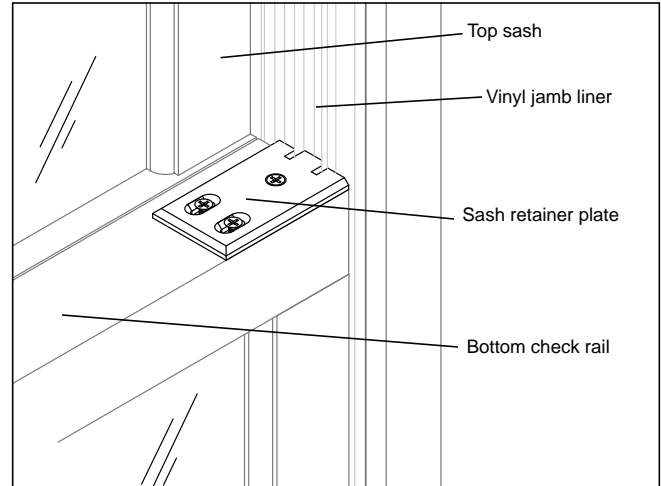

Figure 12
- With bottom sash installed, slide both sash retainer plates tight against the vinyl jamb liner. Secure each plate in place by installing the screw provided into pre-drilled hole in check rail. Then tighten existing screw in each sash retainer plate. *NOTE: After securing sash retainer plates, bottom sash cannot be tilted.* In order to tilt bottom sash, remove screw in round hole and loosen the one in elongated hole. Slide retainer plate away from vinyl jamb liner track. Remember to return plates to the locked position, replace and tighten screws. See figure 12.